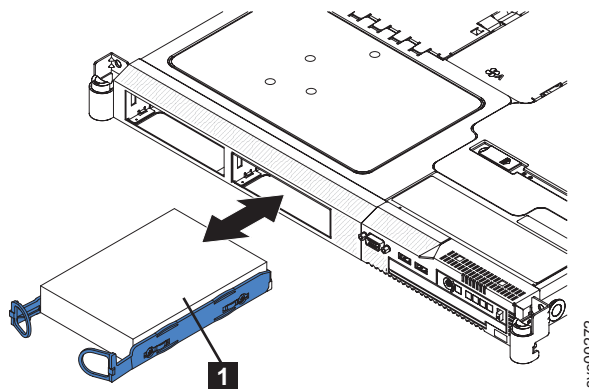

Figure 158. Removing the SATA disk drive from the SAN Volume Controller 2145-8G4
4. Pull the loops of the drive tray (shown in Figure 158) toward each other and pull the tray out of the bay.